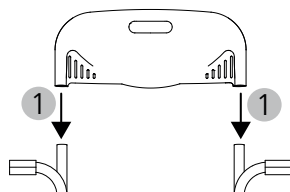

Abb. 4
3. The backrest is then pushed onto the back tubes until it stops (Fig. 4, 1).